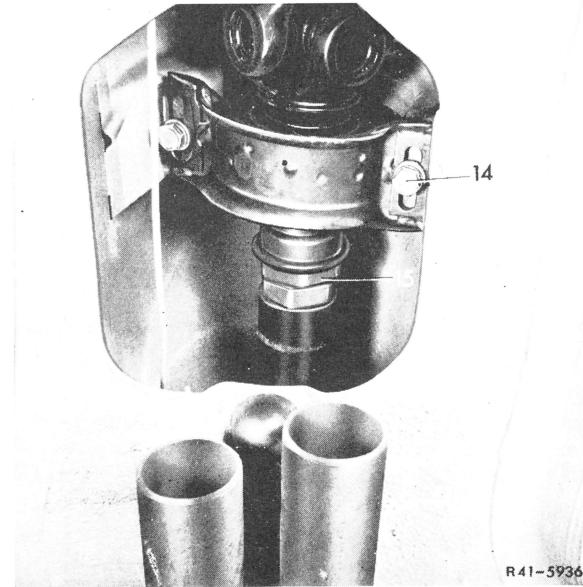

Fig. 4
- 7 Loosen clamping nut (15) and unscrew propeller shaft intermediate bearing on frame floor (Fig. 4).
**27** Tighten propeller shaft intermediate bearing (Fig. 4).